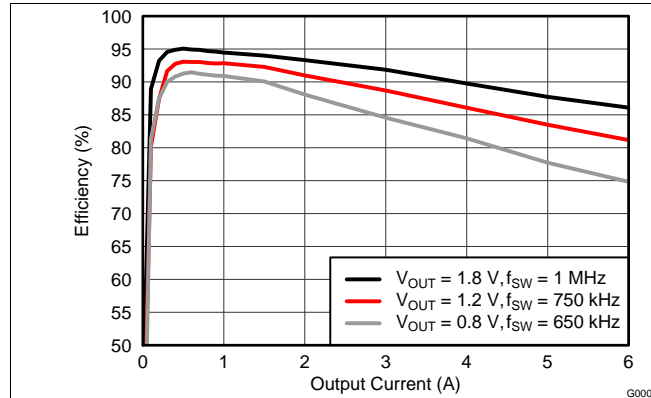
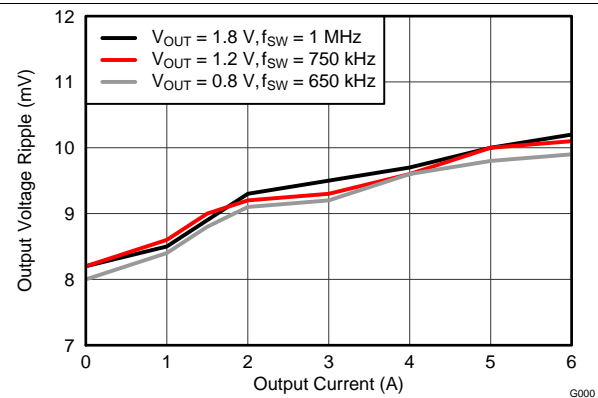
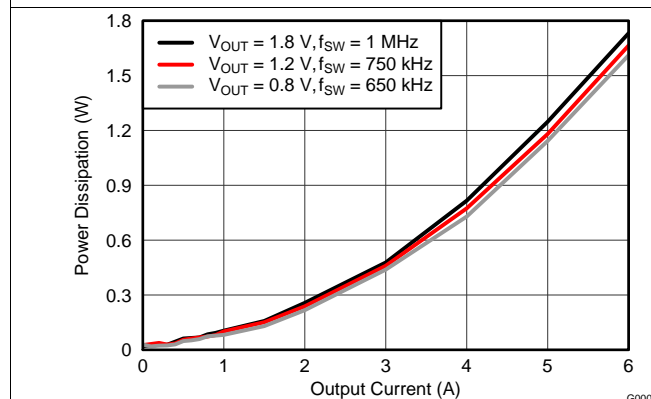

Figure 6. Efficiency vs. Output Current
Figure 7. Voltage Ripple vs. Output Current
Figure 8. Power Dissipation vs. Output Current
- (10) The electrical characteristic data has been developed from actual products tested at 25°C. This data is considered typical for the converter. Applies to Figure 6, Figure 7, and Figure 8.